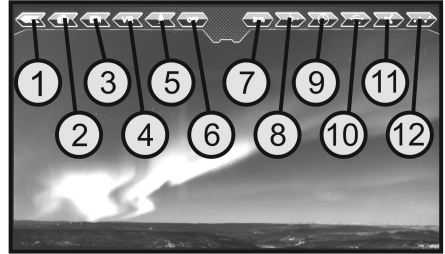

Figure 23
The background image shown in Figure 23 only appears if the app has been activated with the quadcopter switched off. When the quadcopter is connected to Wi-Fi, the camera image is shown in the background.
**The symbols shown in Figure 23 have the following function:**
Alternatively, the respective buttons on the smartphone (see Figure 23, no. 2 or 3) can be enabled. In this case, however, the ongoing video recording will only be displayed on the smartphone. The LED on the quadcopter does not flash.